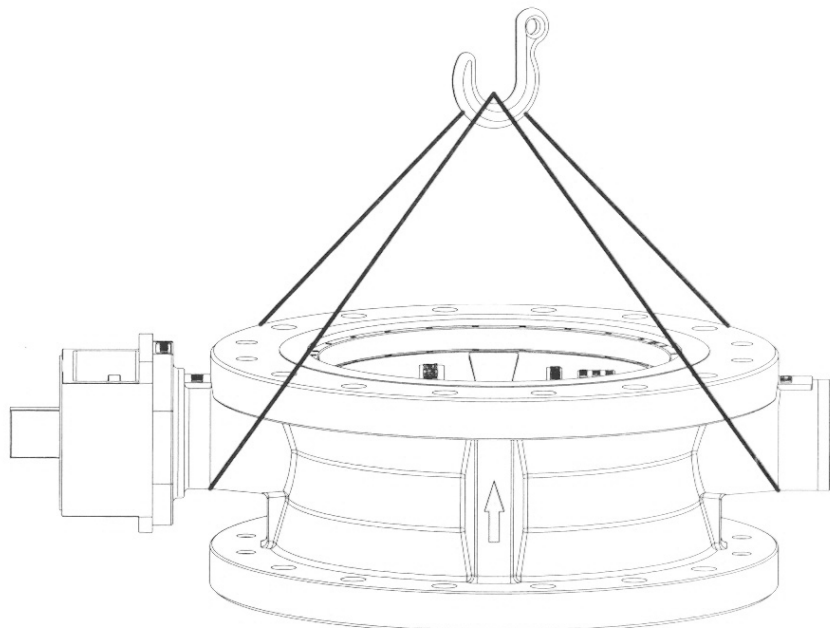

Fig .1
- Lift the Valve properly as shown in figure 1
Valve should be lifted by using chain or bearer cables as shown in figure 1. (Take care that Valve should not damage while handing).
1. Insert guide bush on the valve body ⑩ 2 Nos. as show in Fig.1 (if removed).
2. Place the thrust washer ⑰ on valve shaft from bottom side & bolt it properly.
4. Insert valve shaft (Bottom) ⑯ in the valve body from bottom side along with thrust washer.
7. Make sure valve shaft ⑱ properly inserted in the disc also.
8. Insert the disc pins ⑮ in the disc throughout shaft for the bottom & top bolt & tighten properly.
9. Insert the bottom cover in the body along with gasket. ⑭
10. Insert the bottom cover bolts ⑬ in the bottom cover ⑭ & tighten it.
11. Insert the gland packing set in the valve body from the top side as shown in fig. (Gland packing set consist 1 lower spreader, 4 nos. v-ring, 1 no. upper spreader) ⑧
12. Insert the gland flange in the valve body from top side ⑩
13. Insert the gland bolts in the gland flange & tighten it ⑨
14. Insert the seat ring metal ⑤ & soft ⑥ in the disc.
15. Please refer fig.1 to maintain the position & sequence.
16. Insert disc retainer in the disc along with 'O' ring & maintain the position as mark. ⑦
17. Insert & tighten the bolts in disc retainer. ③
19. Insert the body set retainer ② in the body along with 'O' ring.
20. Insert the bolts in the body set & tighten it. ①